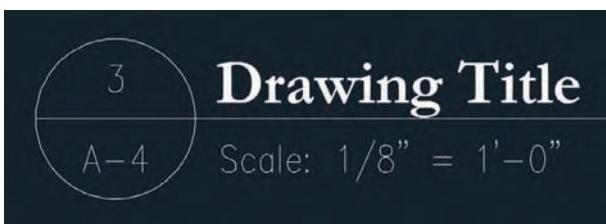

FIGURE 10.13 Edited text content and properties
3. Press Enter to update the selected object. Press Esc to deselect. Figure 10.13 shows the result.